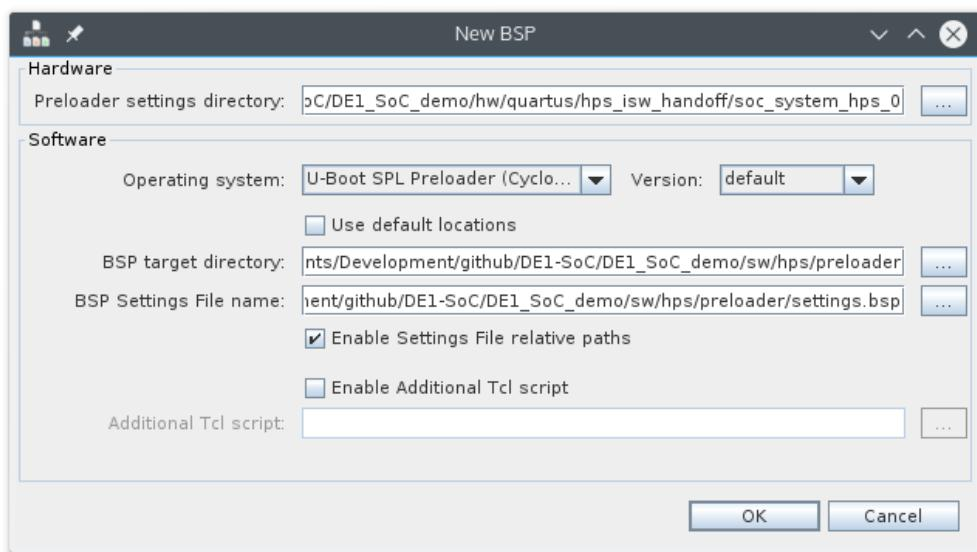

Figure 12-1. New BSP Dialog
- b. Disable the “Use default locations” checkbox and under the “BSP target directory”, select the “DE0_Nano_SoC_demo/sw/hps/preloader” directory. You should have something similar to Figure 12-1.